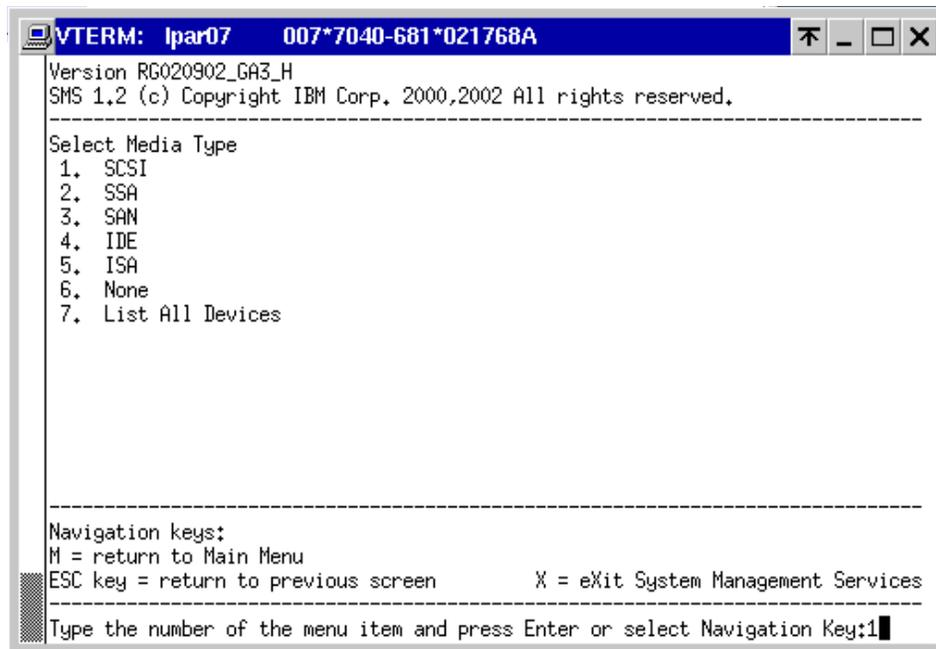

Figure 7-6 System Management Services: Select media type
13. Type 1 to select **1. SCSI**, as shown in Figure 7-6.